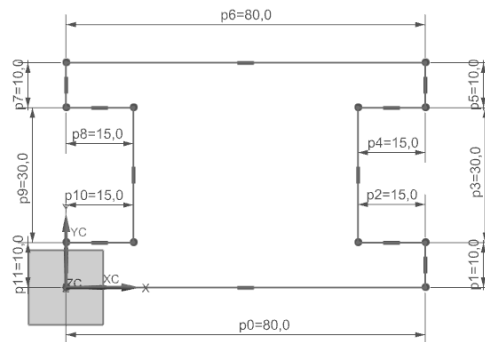

Figure 2-53 Outer profile of the sketch
16. Press the ESC key twice to exit the **Profile** tool. The outer profile of the sketch is shown in Figure 2-53.